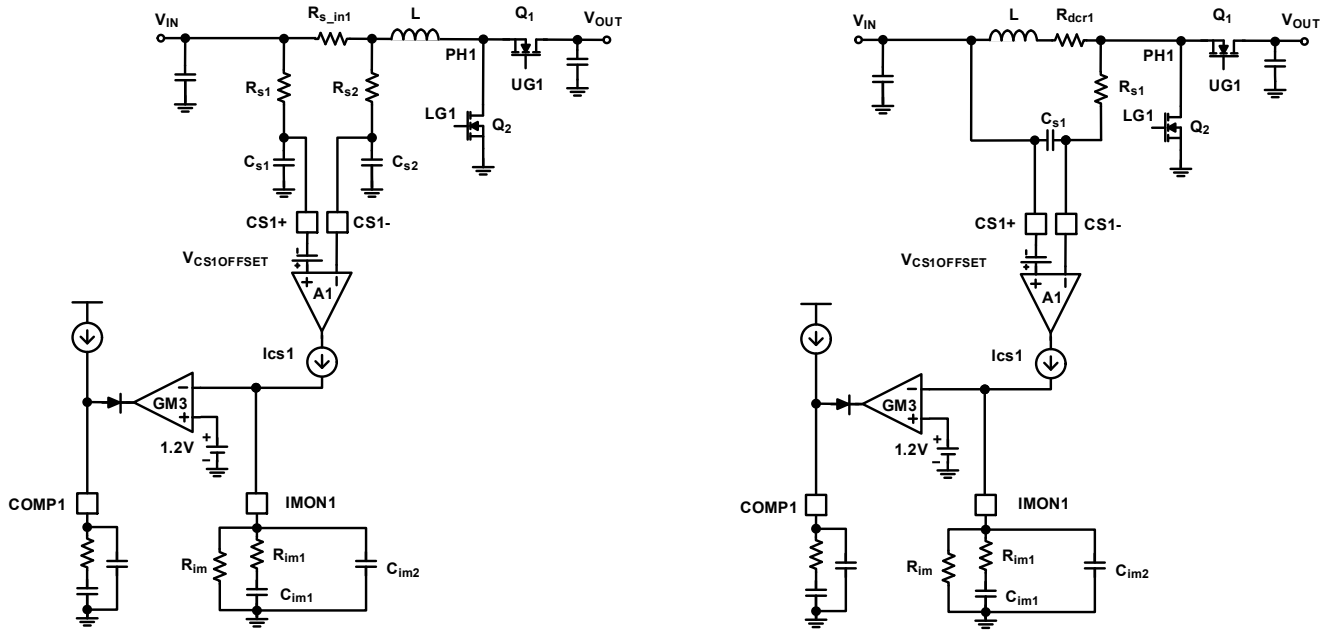

Figure 31. Input Average Current Monitoring and Regulation Loops
The ISL81807 has two current-sense amplifiers (A1 and A2) that monitor the input current of both channels. Figure 31 (A) shows the ISL81807 Channel 1 current shunt sense and monitor circuit, which is identical to Channel 2. The voltage signal on the current sense resistor R_{S_IN1} is sent to the differential input of CS1+/CS1-, after the RC filters R_{S1}/C_{S1} and R_{S2}/C_{S2} . Renesas recommends using a 1Ω value for R_{S1} and R_{S2} , and a 10nF value for C_{S1} and C_{S2} to effectively damp the switching noise without significantly delaying the current signal or introducing too much error by the op-amp bias current. The A1 amplifier converts the current sense voltage signal to the current signal I_{CS1} .
Figure 31 (B) shows the ISL81807 Channel 1 inductor DCR current sense and monitor circuit. R_{DCR} plays the same role as R_{S_IN} in the shunt current sense circuit. Renesas recommends keeping $R_{S1} \times C_{S1} = L/R_{DCR}$. To minimize the error caused by the A1 input bias current, Renesas recommends keeping R_{S1} less than 10k.
When DE mode is set, the Channel 1 and 2 boost sync FET driven by UG1 and UG2 are all running in DE mode. The inductor current is not allowed to reverse (discontinuous operation) depending on the zero-cross detection reference level V_{CROSS1} for Channel 1 and V_{CROSS2} for Channel 2 sync FET. At light-load conditions, the converter goes into diode emulation. When the load current is less than the level set by $V_{IMON1BSTEN}$ or $V_{IMON2BSTEN}$ typical 0.815V on the IMON1 or IMON2 pin, the Channel 1 or 2 enters Burst mode. Equation 9 sets the Burst mode operation enter condition for Channel 1 (see Figure 31). The same equation also applies to Channel 2.
As shown in Figure 31 in Input Average Current Monitoring and Regulation Loops as an example, the inductor peak current is sensed by the shunt resistor R_{S_IN} and amplifier A1 for Channel 1. For both Channel 1 and 2, when the voltage drops on R_{S_IN} and reaches the set point $V_{OCSET-CS}$ typical 82mV, the low-side FET is turned off. The first level peak current limit set point I_{OCPP1} is calculated using Equation 12.
In cases of OVP protection, the inductor current becomes too negative. For the Channel 1 example, the negative current is sensed by the shunt resistor R_{S_IN1} and amplifier A1 as shown in Figure 31. When the voltage drops on